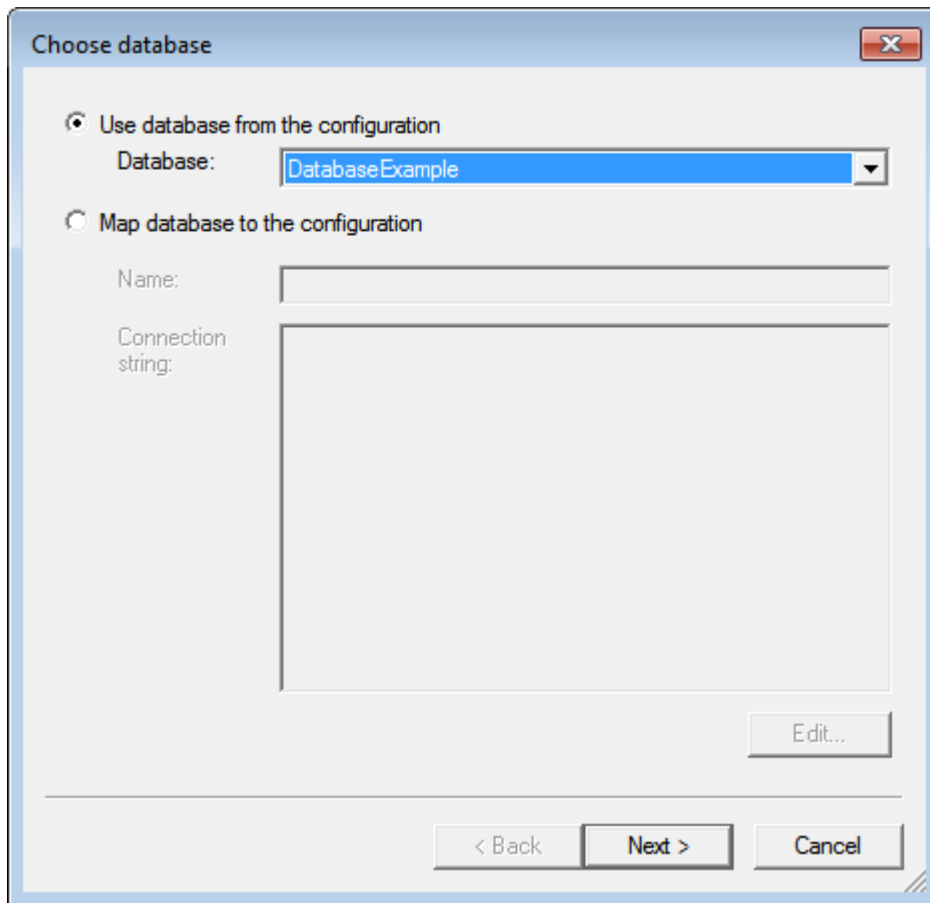

Figure 1: Starting the wizard – choose using database from configuration or creating connection string to another database
1. Choosing a database either (**Figure 1**)